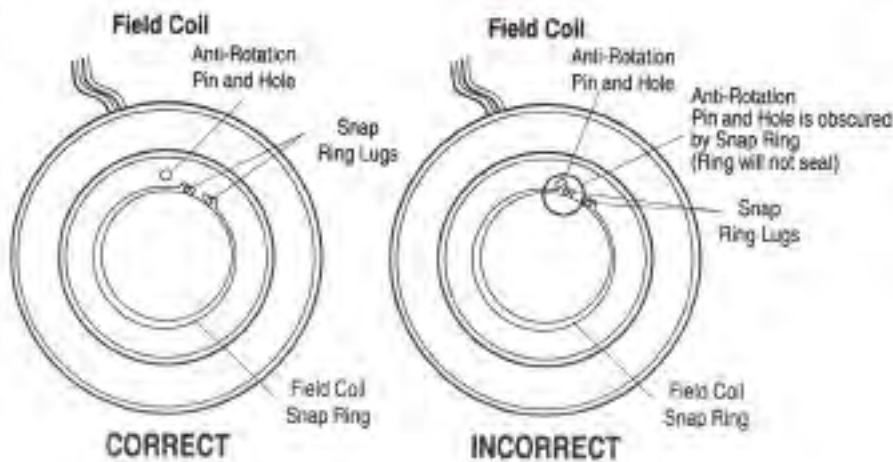

Figure 18
- The lug of the field coil snap ring must **NOT** be positioned over the anti-rotation pin. See Figure 18.
Reset the hub/armature to rotor/pulley air gap to 0.020 to 0.040 inch clearance by removing shims. World Clutch with Unidamp® Armature airgap settings are New .018" to .030" or Used .013" to .025". See Figure 18. Measure the air gap between the hub/armature and rotor/pulley at three locations 120° apart using a feeler gauge.